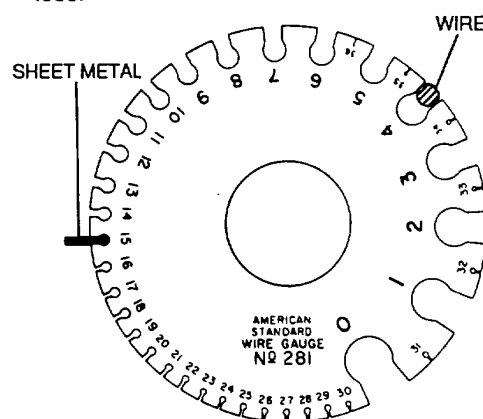

Figure 3-72. Measuring Sheet Metal and Wire
3-18. Sheet Metal and Wire Gauge. The sheet metal and wire gauge, shown in figure 3-72, is used for measuring the diameters of wires or the thickness of sheet metal.
b. Use. As previously stated, sheet metal and wire gauges can measure both sheet metal thickness and wire diameter (see figure 3-72).
(1) Sheet metal. To measure the thickness of a piece of metal, proceed as follows: